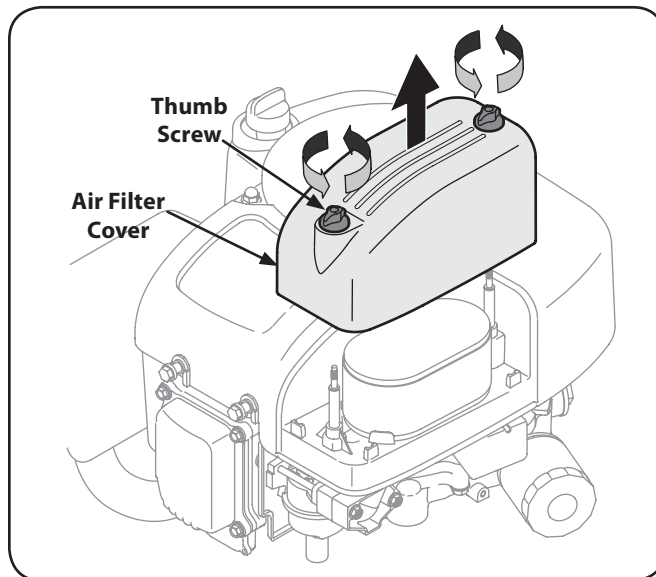

Figure 6-4
1. Unscrew the thumb screws and remove the air filter cover. See Figure 6-4.